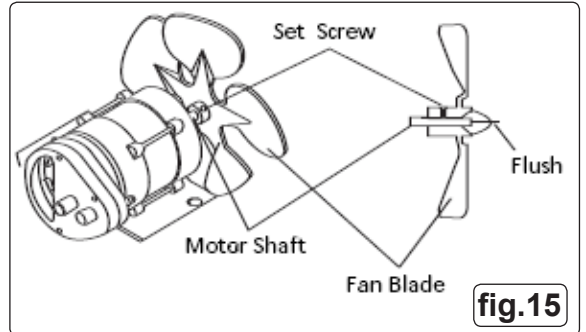

fig.15
- 6.8. Fan.** Fan blades (fig.15) should be cleaned at least once per heating season, depending on environment. Remove the outer case top shell (fig.3) and clean the fan blades with a damp cloth. Dry fan thoroughly using compressed air.